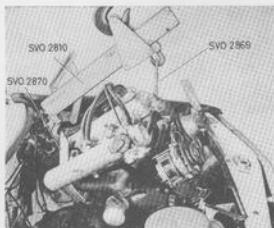

Fig. 2-19. Lifting out engine
17. Hook lifting beam 2810 onto the lifting lugs and adjust the block and tackle unit at the rear end. Hoist so that the engine goes up at the rear end (see Fig. 2-19).